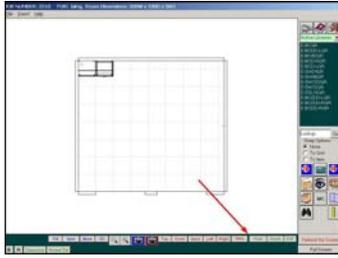

Fig. 4.4
1. When sending a picture to the Presentation document, the video will instruct the user to click the printer icon with the right mouse button. The current program no longer uses the printer icon. Instead, you will see a Print button located at the bottom of the screen (See Fig. 4.4). You should right click this print button instead.